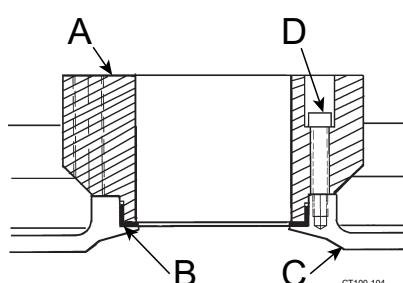

Figure 54 - Insert L-gasket, Fasten Adapter in Place
5. Insert the L-gasket into the backplate (Figure 54, items B and C).
6. Insert the cartridge adapter (Figure 54, item A) into the backplate (Figure 54, item C) and tighten with four socket head cap screws (Figure 54, item D).